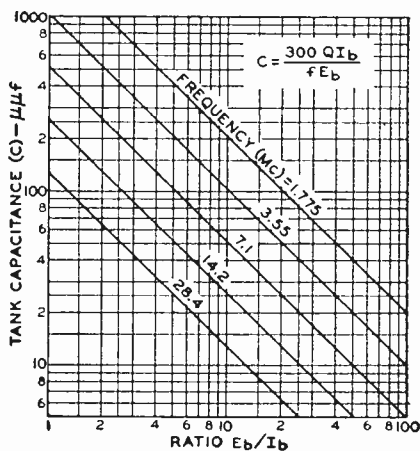
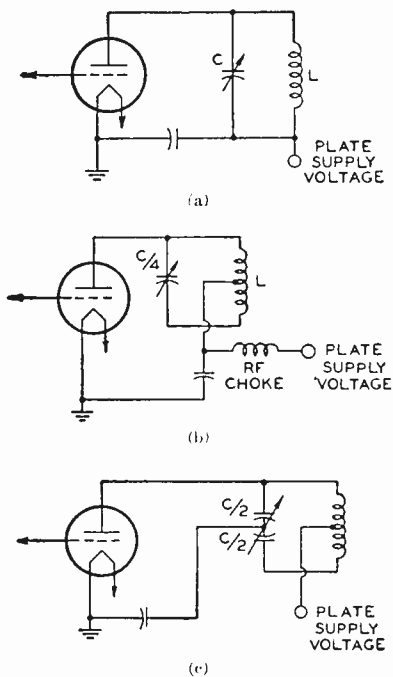

Fig. 35
Fig. 36
Fig. 35 shows  $C$  as a function of the ratio  $E_b/I_b$  for a  $Q$  value of 12. The curves in Fig. 35 can be used to determine values of tank-circuit capacitance suitable for use in equipment operating in the amateur bands. Values of  $C$  obtained from this chart or calculated by the use of Equation (4) apply only for single-ended tank circuits which are not split for neutralization or other purposes, such as that shown in Fig. 36 (a). These values represent the total capacitance required for resonance at the corresponding frequencies, and include tube and stray circuit capacitance. Values slightly higher than those indicated can generally be used without appreciable reduction of power output.
When a split tank circuit is employed for a single-ended stage, as shown in Fig. 36 (b), the total tank capacitance should be one-fourth that indicated by Fig. 35 or Equation (4). The corresponding tank inductance, therefore, is 4 times
that required for a tank circuit which is not split. If the tank tuning capacitor is a split-stator type, such as that shown in Fig. 36 (c), each section should have one-half the capacitance indicated by Fig. 35 or Equation (4).
A push-pull stage operating at the same dc plate voltage and total dc plate current as a single-ended stage also requires one-fourth the tank-circuit capacitance indicated in Fig. 35 or Equation (4), or if the tuning capacitor is a split-stator type, each section should have one-half the capacitance indicated. A push-pull stage operated at the same plate voltage but drawing twice as much plate current as a single-ended stage requires one-half the tank-circuit capacitance indicated. In this case, each section of a split-stator tank capacitor should have the capacitance indicated in Fig. 35 and in Equation (4).